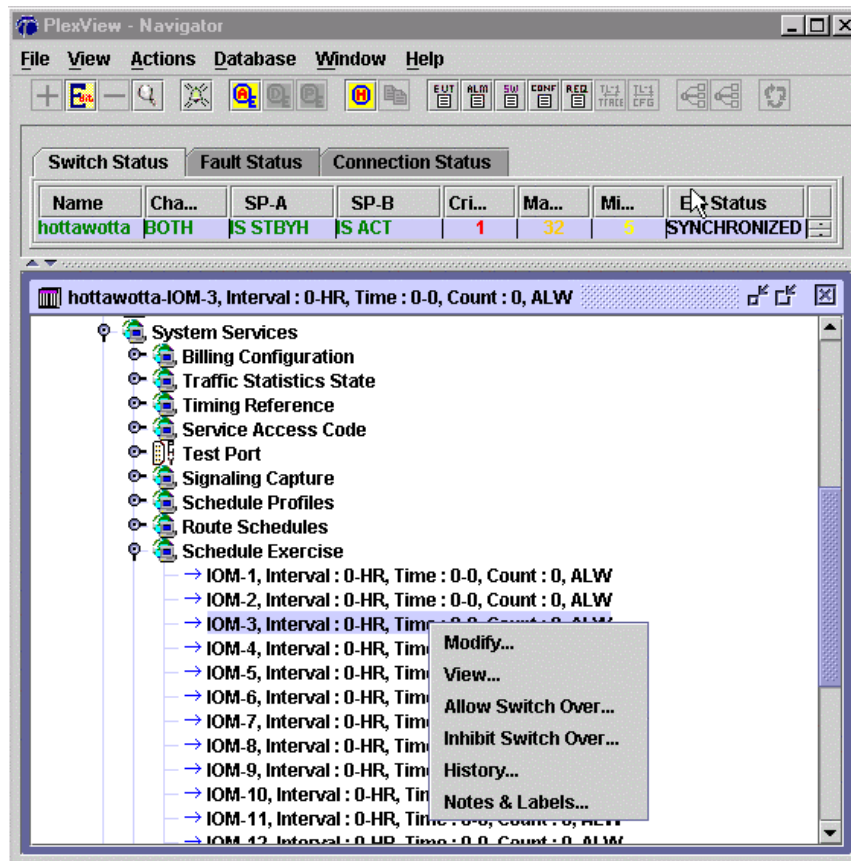

Figure 2. Schedule Exercise
7. Right-click the IOM you want to schedule and select *Modify*. See Figure 2.